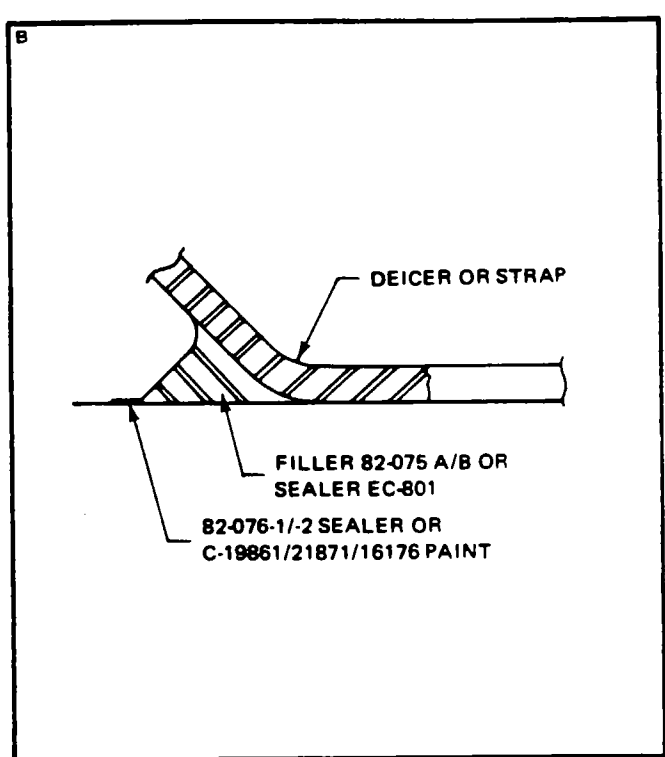

Figure 30-21. Sealer Application (Lead Strap)
6. Insure that a fillet of filler completely covers the area between deicer strap and blade. (See Figure 30-21.) Immediately remove masking tape and allow filler to dry for six hours.
8. Insure that sealer completely covers area between deicer strap and blade. (See Figure 30-21.) Immediately remove masking tape and allow sealer to dry for 24 hours before starting engine.